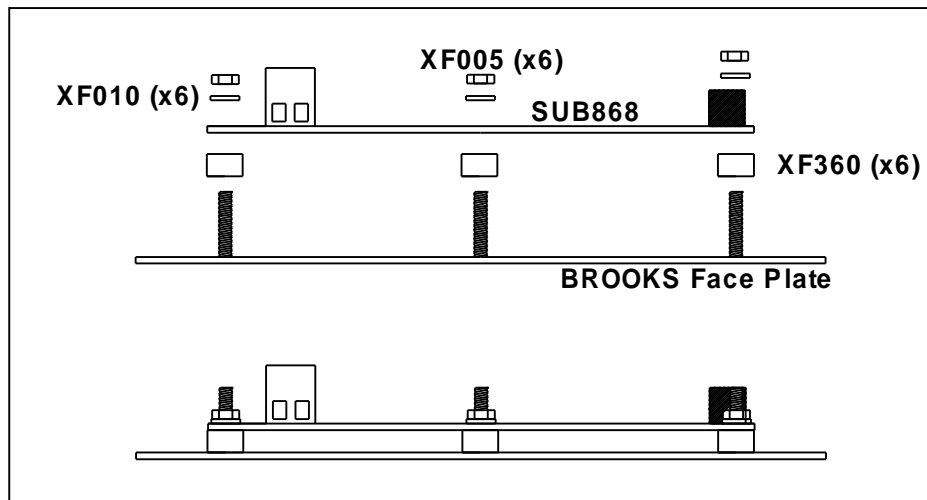

Figure 8 Assembly on Brooks Face Plate
1. Assemble the display board SUB868 into Brooks face plate CB485 as shown in figure 8.